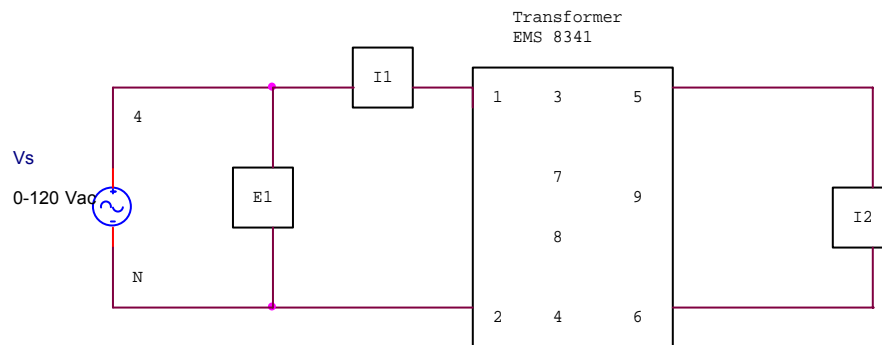

Figure 2 Single Phase Transformer Circuit for part two.
12. Construct the circuit of Figure 2. Note that I2 shorts the secondary windings 5-6. Turn on the power and slowly adjust the voltage control to obtain a secondary current of 0.4 A. DO NOT EXCEED THE SECONDARY WINDING CURRENT RATING. Record the values of primary voltage, primary current and secondary current through windings 5-6. Turn the voltage control knob CCW, and turn off the main power supply.